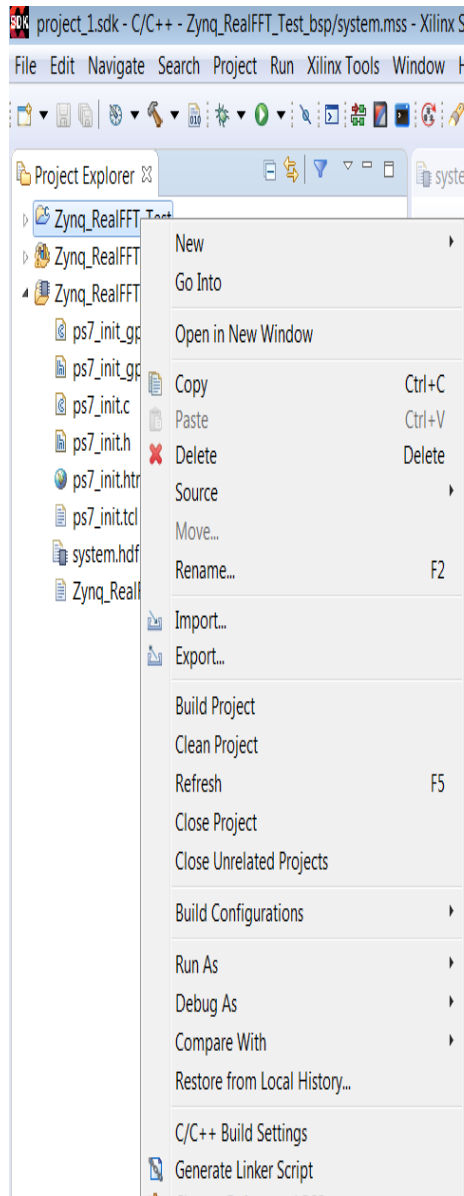

Figure 10-43: Specify C/C++ Build Settings
- a. Right-click the `zynq_realfft_test` project in the Project Explorer pane and select **C/C+ Build Settings** (Figure 10-43).